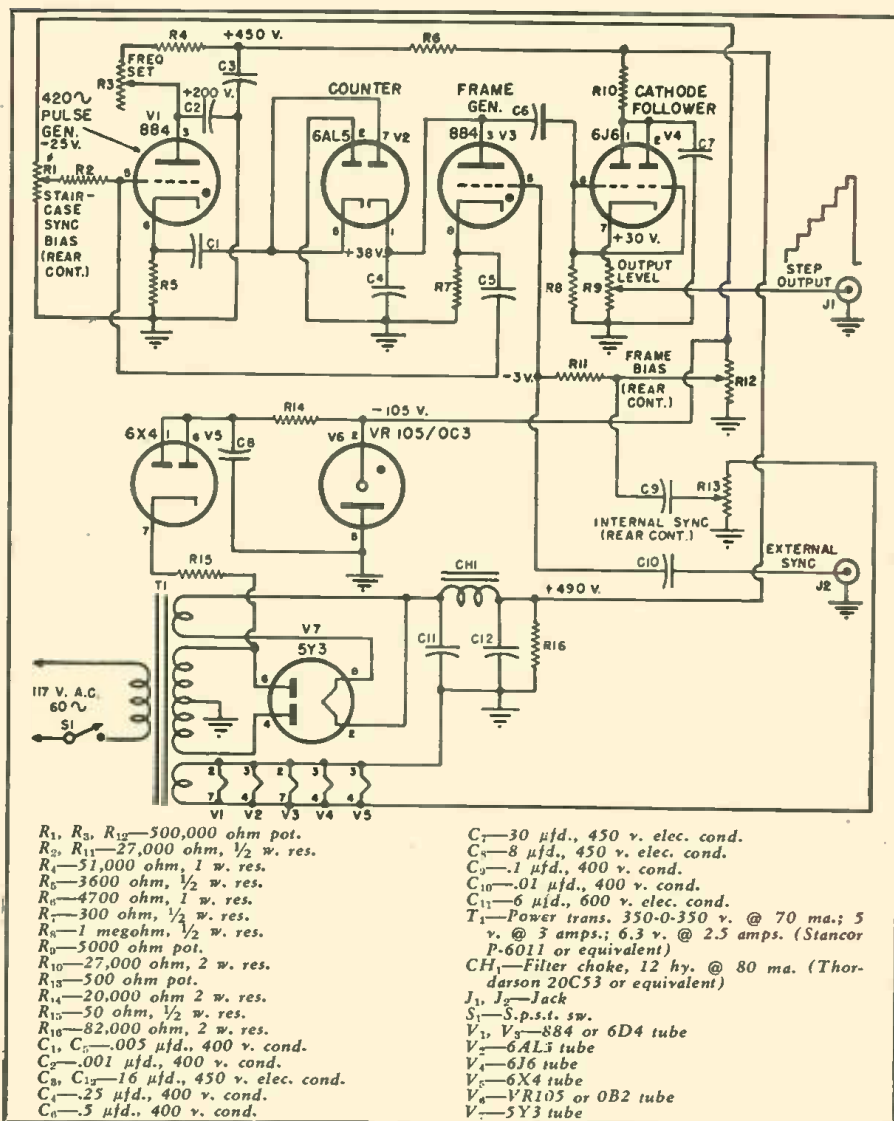

Fig. 2. Schematic diagram of gamma checker. If an oscilloscope is not available any TV set can be used to make final adjustments on this test instrument.
A block diagram of the instrument is shown in Fig. 1. Essentially what is done is to make pulses, have these pulses charge a condenser, and then transfer this charge to another condenser. The voltage on the second condenser is periodically discharged while the pulses continue to charge the small condenser which, in turn, recharges the larger unit. Referring to the schematic in Fig. 2, the 884 or 6D4 tube, V_1 , is the pulse generator, which is adjusted to run at approximately 420 cycles. The bias and plate voltages of V_1 and the values of R_b , R_1 and C_1 determine the frequency. At the plate of V_1 , a 420-cycle saw-tooth exists, but is not used. Instead, the pulses at the cathode caused by the breakdown of the gas tube charge condenser C_1 . This charge is transferred by means of the 6AL5 bucket counter circuit to C_2 . The bucket circuit consists of a double-diode tube, one diode of which allows a positive pulse to pass and then cuts off as soon as the charging pulse falls. In order not to
Fig. 2. (A) 78 r.p.m. groove, 2.7 mil radius stylus. (B) Microgroove, 1 mil radius stylus. (C) 1 mil stylus in a 78 r.p.m. groove. (D) A 2.7 mil radius stylus in microgroove.